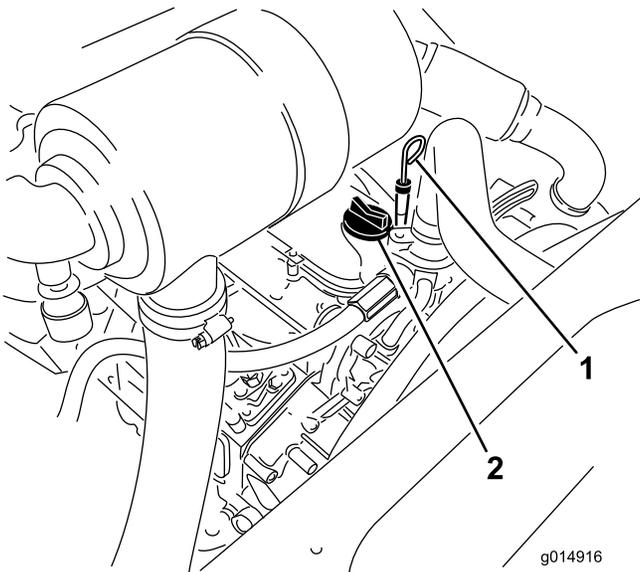

Figure 27
3. Remove the dipstick, wipe it clean, and install it (Figure 27).
5. If the oil level is below the FULL mark, remove the fill cap (Figure 27) and add oil until level reaches the FULL mark on dipstick. **Do not overfill.**